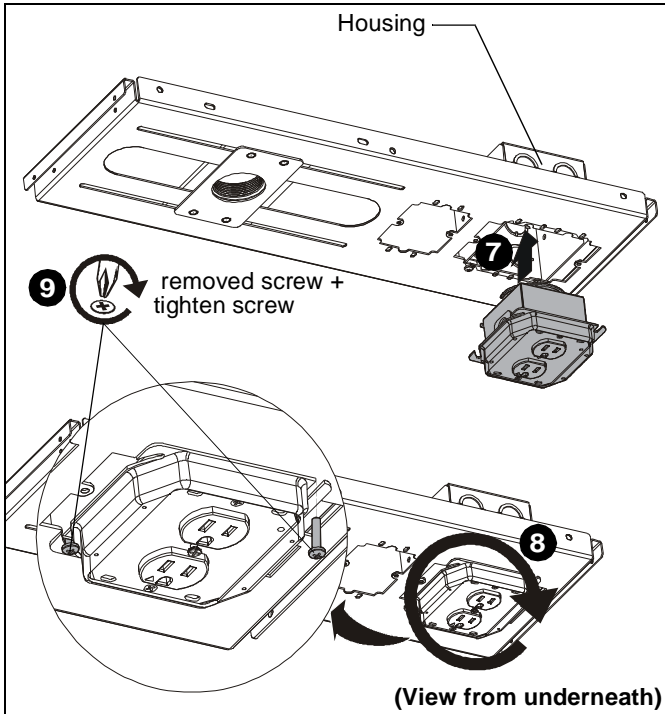

Figure 5
7. Replace the outlet box in the housing. (See Figure 5)
8. Rotate outlet box clockwise until it is in proper position to be secured to the housing. (See Figure 5)
9. Reinstall one removed Phillips screw and tighten the other one to secure outlet box to housing. (See Figure 5)